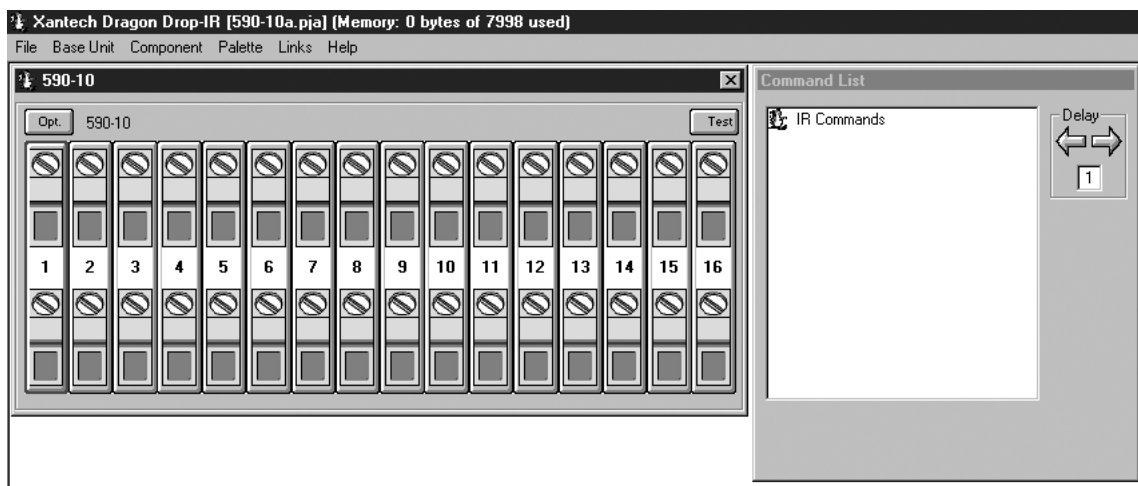

Figure 13 – 590-10 Base Unit
4. A graphic window (590-10) with 16 virtual switch pairs and a Command List will appear (**Figure 13**).